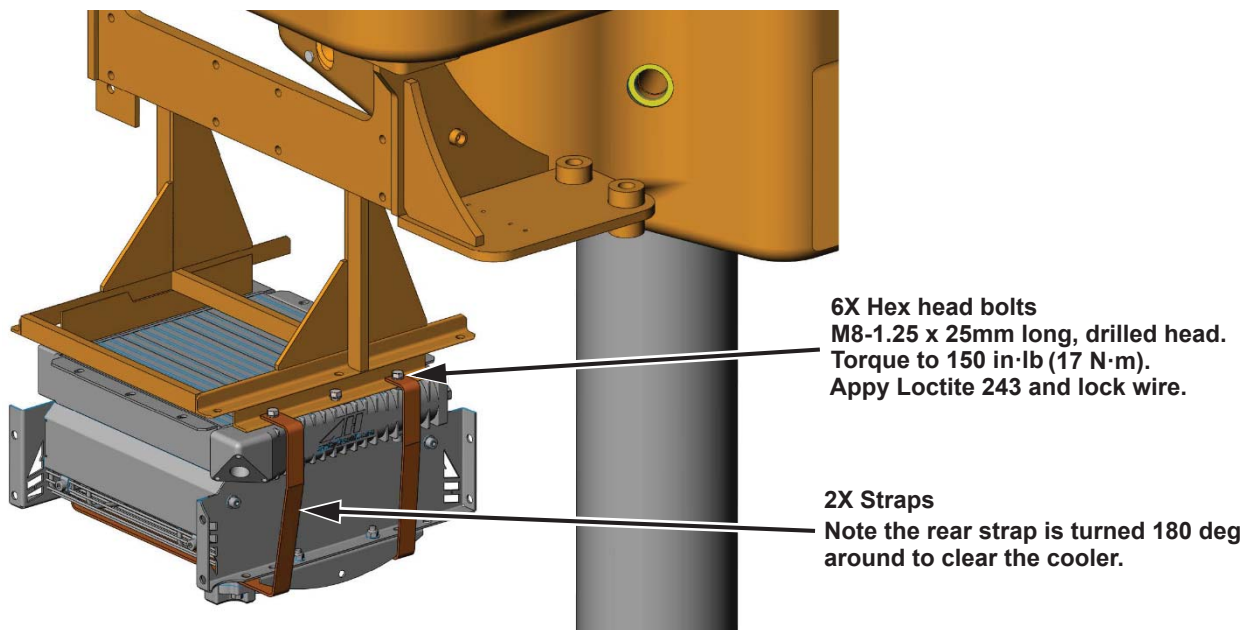

Figure 9: Install Cooler and Straps
2. Install the cooler and the straps onto the frame using six M8 x 25mm long drilled Hex head bolts and flat washers. Torque the bolts to 150 in· lb (17 N· m). Apply Loctite 243 and lock wire to the bolts. The straps serve as a secondary retention for the cooler assembly. See Figure 9 below.